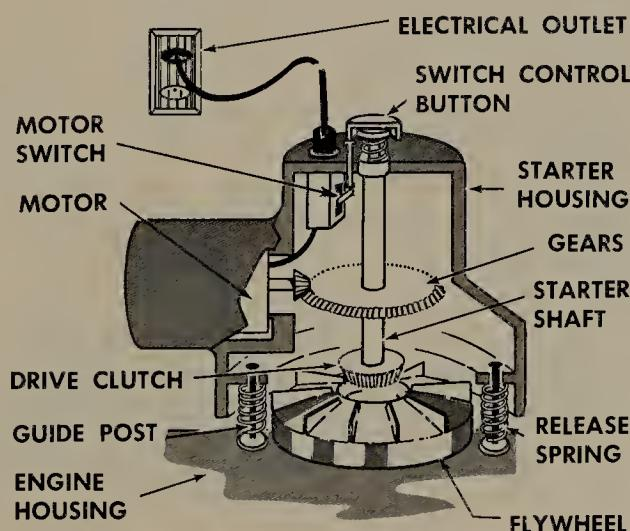

FIGURE 9.10 Details of the cone-drive mechanism used with a 120-volt starter. Parts are shown separated so their relationship can be seen.
9.6 Cone-drive 120-volt Starter. One type of 120-volt electric starter, shown in Fig. 9.10, uses a cone-shaped friction-drive clutch. To operate this starter, you press down on the switch-control button. This connects the electric motor to the 120-volt source so it spins. As soon as it gets up to speed, you then press down on the starter housing. This engages the cone-shaped drive clutch so that the flywheel and crankshaft are spun. When the engine starts, you release the starter housing and the switch-control button. The release springs lift the starter housing so the clutch disengages and at the same time the spring under the switch-control button lifts the button so that the starter motor is disconnected from the 120-volt source.